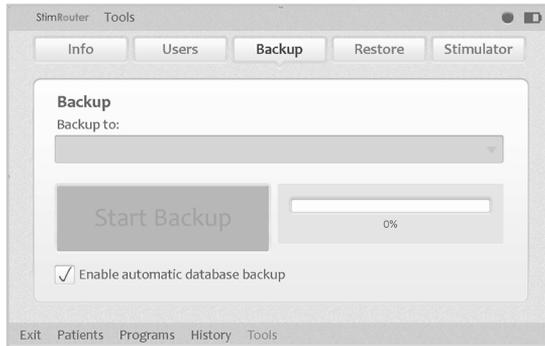

Figure 10-5: Backing up the Clinician’s Programmer database
1. Press “Tools” on the Menu Bar, press the Backup Tab, and then check “Enable automatic database backup”. The Clinician’s Programmer database will back up once daily and each time the software is exited. See Figure10-5.
2. From the “Back up to” drop-down list, select SD Card drive, and then press the “Start Backup” button. See Figure 10-5.